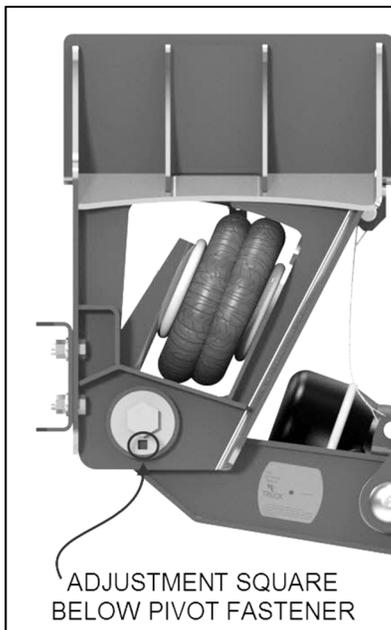

Figure 17
6. Adjust all four (4) eccentric collars so that the adjustment square is positioned vertically below the pivot fastener (See **Figure 17**).